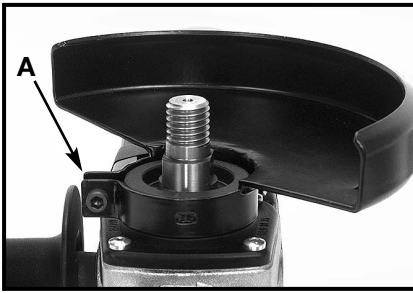
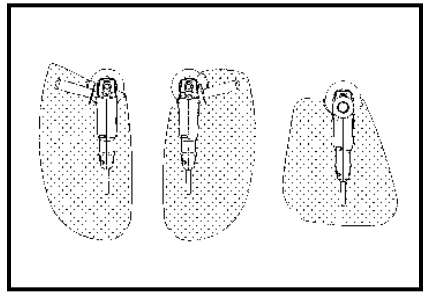

Fig. 3
Fig. 4
3. Seat the guard on the mounting flange. Rotate the guard to a position that will place the guard between the operator and the grinding wheel (or any other accessory requiring a guard). Tighten the clamp screw (A) Fig. 3 to secure the guard in proper position for the grinding application (see Fig. 4).
**⚠ WARNING** Always make sure that the wheel guard is positioned between the operator and the wheel, so that flying chips or pieces of a wheel that might break will be deflected away from the operator (see Fig. 4).